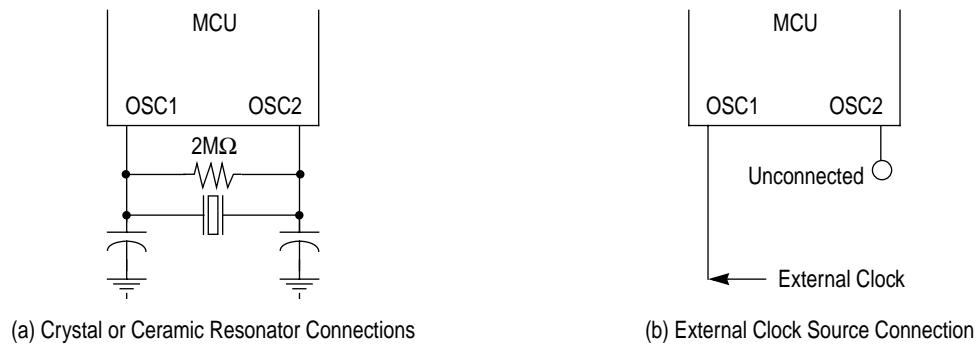

Figure 1-3. EPO Oscillator Connections
1. A crystal as shown in **Figure 1-3(a)**.
2. A ceramic resonator as shown in **Figure 1-3(a)**.
3. An external clock signal as shown in **Figure 1-3(b)**.
The circuit in **Figure 1-3(a)** shows a typical oscillator circuit for an AT-cut, parallel resonant crystal. The crystal manufacturer's recommendations should be followed, as the crystal parameters determine the external component values required to provide maximum stability and reliable start-up. The load capacitance values used in the oscillator circuit design should include all stray capacitances. The crystal and components should be mounted as close as possible to the pins for start-up stabilization and to minimize output distortion.
In cost-sensitive applications, a ceramic resonator can be used in place of the crystal. The circuit in **Figure 1-3(a)** can be used for a ceramic resonator. The resonator manufacturer's recommendations should be followed, as the resonator parameters determine the external component values required for maximum stability and reliable starting. The load capacitance values used in the oscillator circuit design should include all stray capacitances. The ceramic resonator and components should be mounted as close as possible to the pins for start-up stabilization and to minimize output distortion.
An external clock from another CMOS-compatible device can be connected to the OSC1 input, with the OSC2 input not connected, as shown in **Figure 1-3(b)**. This configuration is possible regardless of whether the crystal/ceramic resonator or internal VCO is enabled.